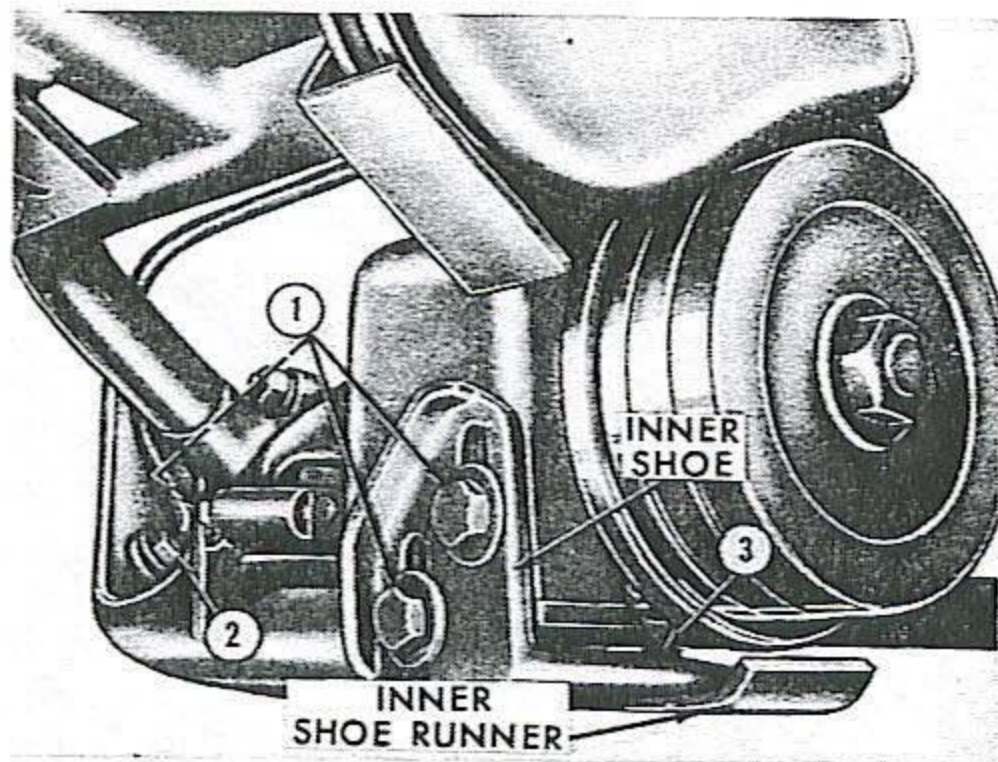

Figure 10
3. Loosen the lock nut (1), Figure 10.